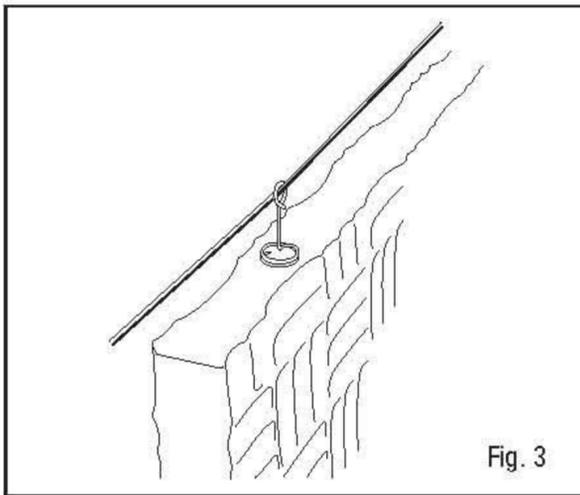
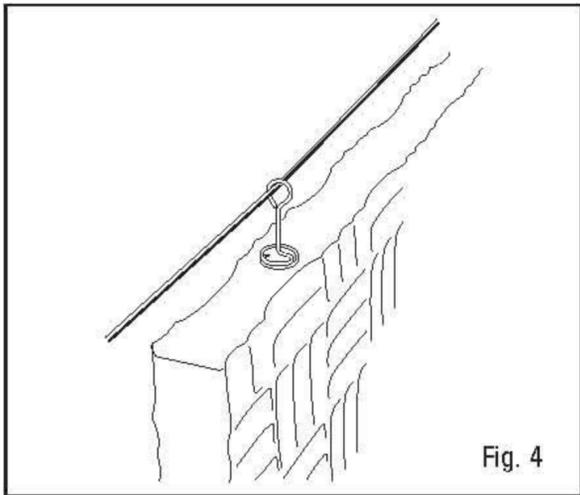

Fig. 3
Fig. 4
- W4. Slip the eye loops over the cable (Figure 3). Turn the eye loops approx. 1/4 turn counterclockwise so the eye loops are perpendicular to the baffle, locking the cable in place (Figure 4).